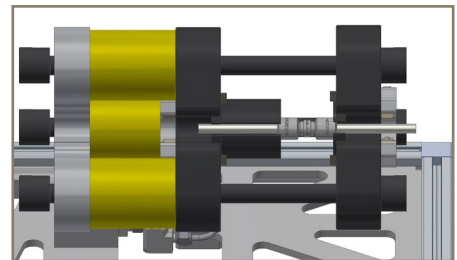

Figure 55
5. **BOTTOM OUT THE TUBING.** Place the tubing into the tool and ensure positive engagement of the tube grips. Slide the tubing into the Phastite® connector ends. The two lines produced by the tubemarker should not be visible. This ensures adequate tube insertion prior to assembly (Figure 55).